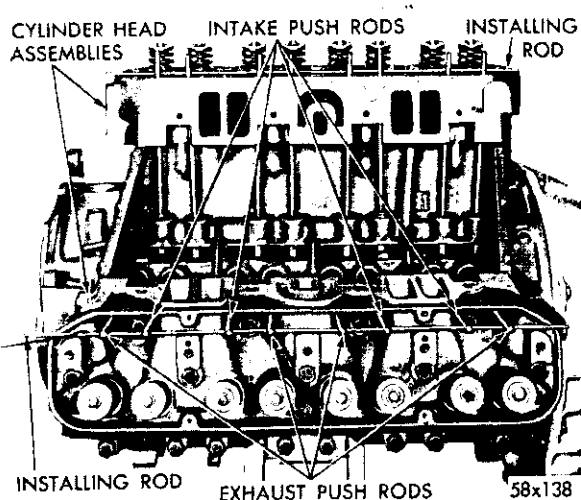

Fig. 12—Push Rods Installed
(5) Inspect the push rods and replace the worn or bent rods.
(6) Install the push rods with the small ends in the tappets maintaining alignment, using rod, as shown in Figure 12.